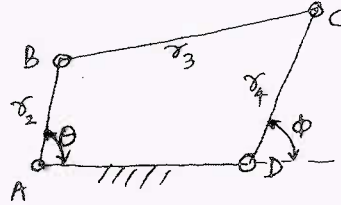

Fig.Q6
- 6 a. For the 4-bar mechanism shown in Fig.Q6, obtain Freudenstein's equation. (08 Marks)
- b. Find r_2 , r_3 and r_4 to generate a function $y = x^3$, $1 \leq x \leq 3$ accurate at $x = 1.1339$, $x = 2$ and $x = 2.866$ if $r_1 = 100\text{mm}$, $\theta_s = 30^\circ$, $\theta_f = 90^\circ$, $\phi_s = 45^\circ$ and $\phi_f = 135^\circ$ with respect to Fig.Q6. (12 Marks)